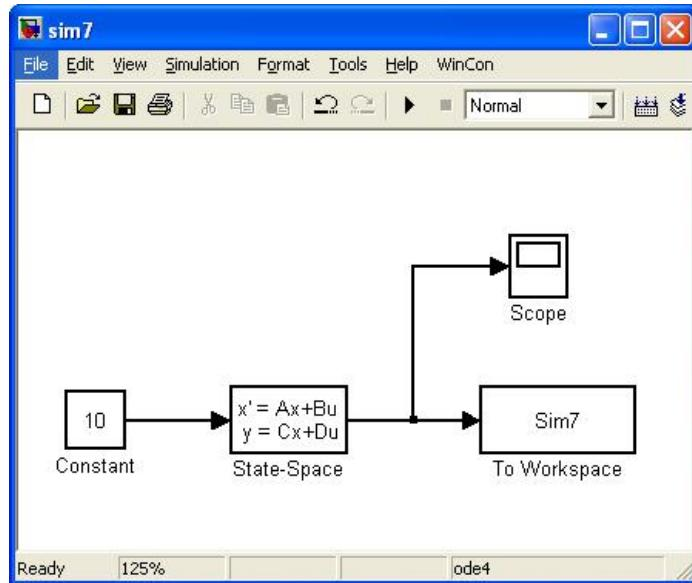

Figure 6.1: Simulink model for a generic second-order system
2. Open Matlab and build a Simulink model according to Figure 6.1. You should have